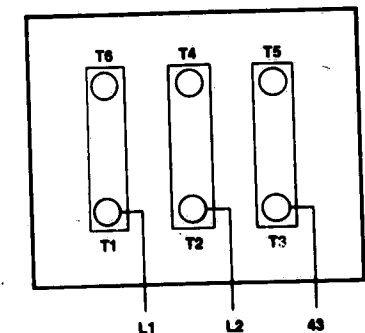

Figure 6-2. WIRING OF SIX TERMINAL MOTOR.
10. Connect four wires to applicable terminals in junction box. (Note: If unit had pump motor with 9 terminals, refer to Figure 6-2 for correcting wiring of motor with 6 terminals.)